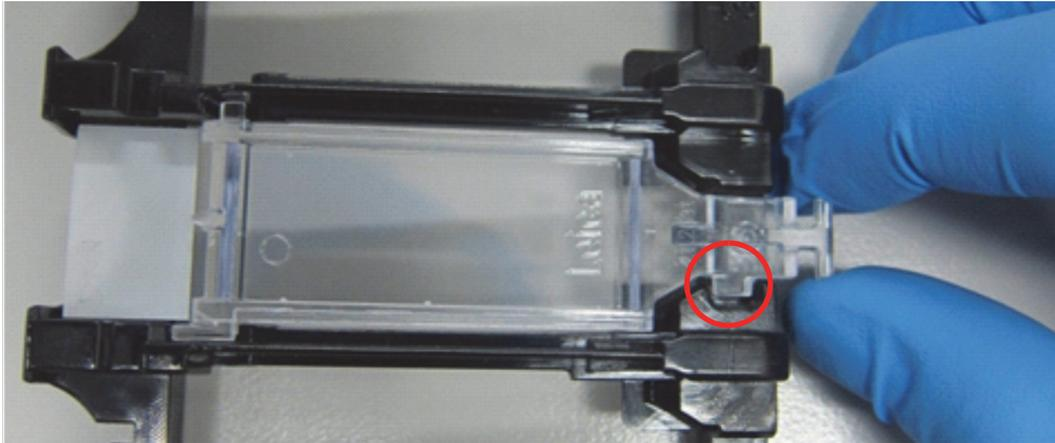

Figure 44: Positioning a Covertile on a slide
3. Hold a Covertile by the tail and lay it on the slide, fitting the key on the neck of the Covertile into the recess in the slide tray (circled in **Figure 44**). With new-design Covertiles the word "Leica" imprinted on the Covertile should read correctly, showing that the Covertile is the correct way up.